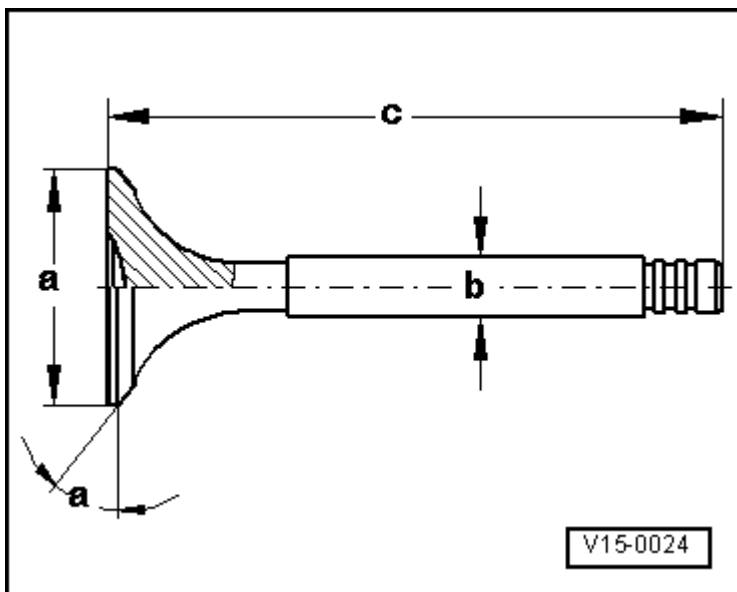

Fig. 7: Identifying Valve Dimensions
- Valve dimensions, refer to **Fig. 7**.